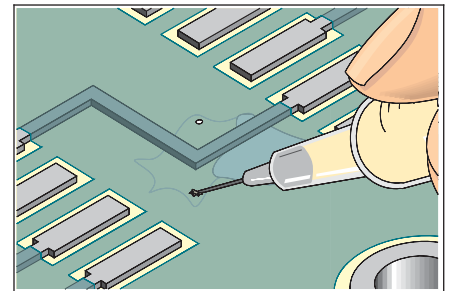

Figure 2 Inject epoxy into the delamination blister.
6. Inject the epoxy into one of the holes in the delamination. (See Figure 2.) The heat retained in the printed circuit board will improve the flow characteristics of the epoxy and will draw the epoxy into the void area filling it completely.